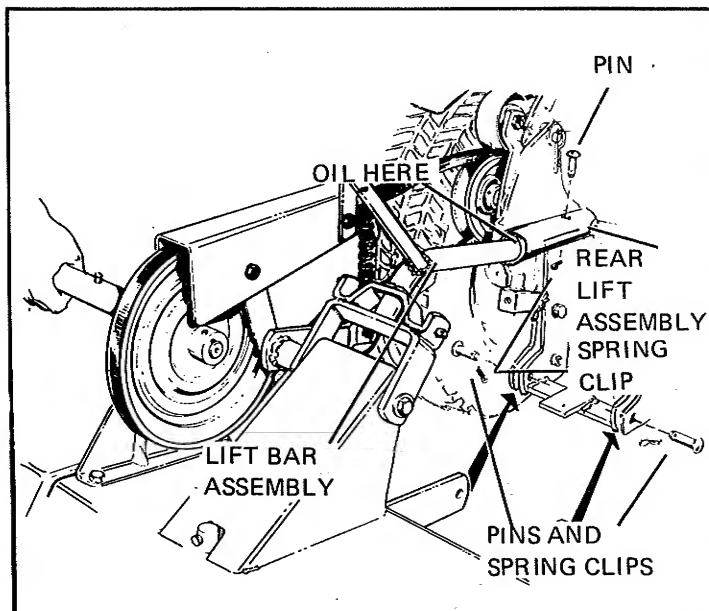

Figure 2.
3. See Figure 2. Lower the tractor lift unit and place the revitalizer lift bar assembly into the tube of the tractor rear lift assembly. Placing a thin film of oil on the lift bar will make it slide in place more easily. Fasten the lift bar in place with the pin and spring clip provided.